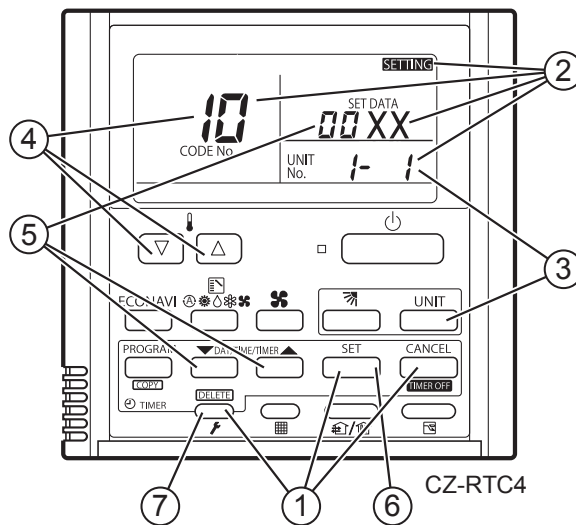

Fig. 5
- ① Press and hold the ,  and  buttons simultaneously for 4 seconds or longer.
- ② “SETTING”, unit No. “1-1”, item code “10,” and settings data “00 XX” are displayed blinking on the remote controller LCD display (Fig. 5). At this time, the indoor unit fan begins operating.
- ③ If group control is in effect, press the  button and select the address (unit No.) of the indoor unit to set. At this time, the fan at the indoor unit begins operating.
- ④ Press the temperature setting  /  buttons to select the item code to change.
- ⑤ Press the timer time  /  buttons to select the desired setting data.
- ⑥ Press the  button. (The display stops blinking and remains lit, and setting is completed.)
- ⑦ Press the  button to return to normal remote controller display.